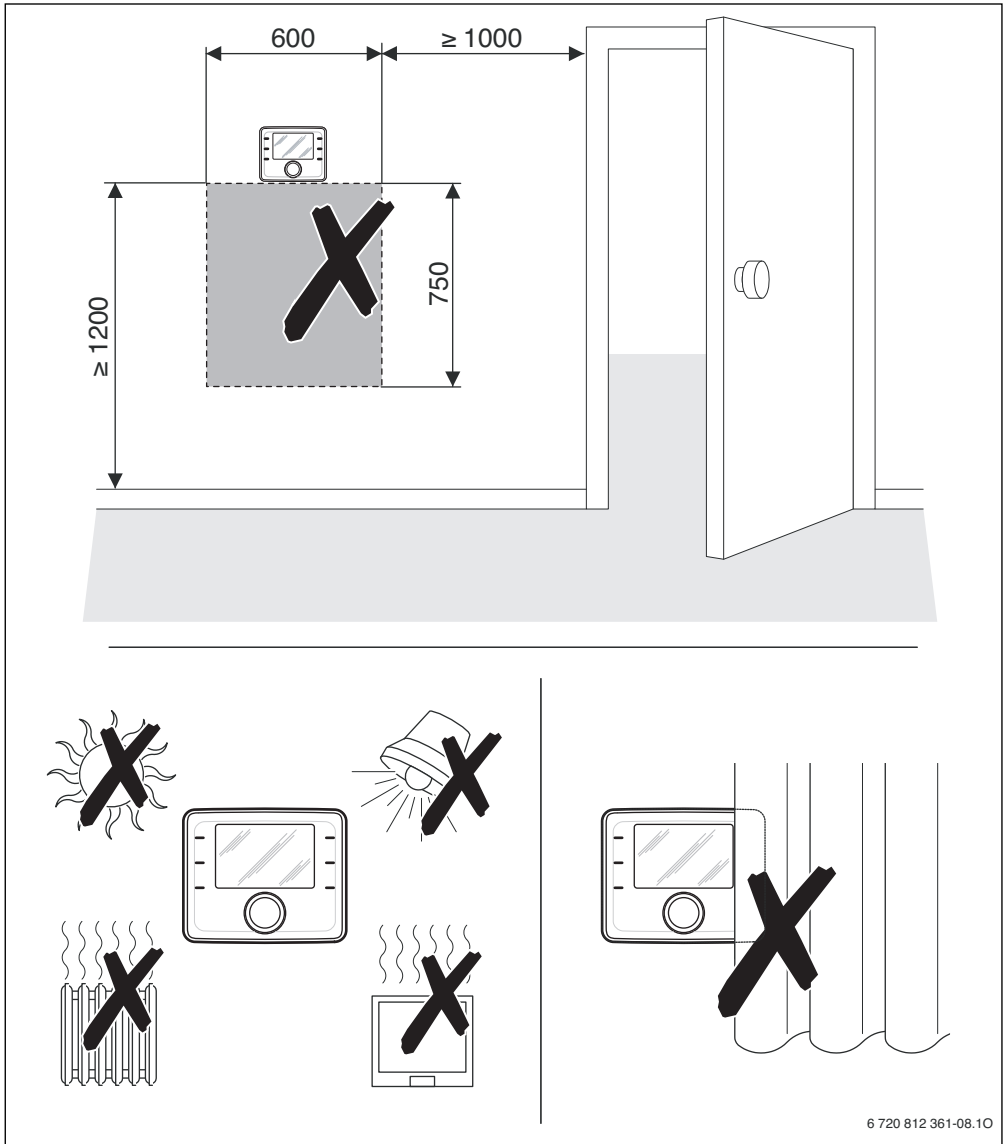

Fig. 4 Installation location in the reference room
- The installation location (= reference room) must be suitable for controlling the heating system (→ Fig. 4, page 9).